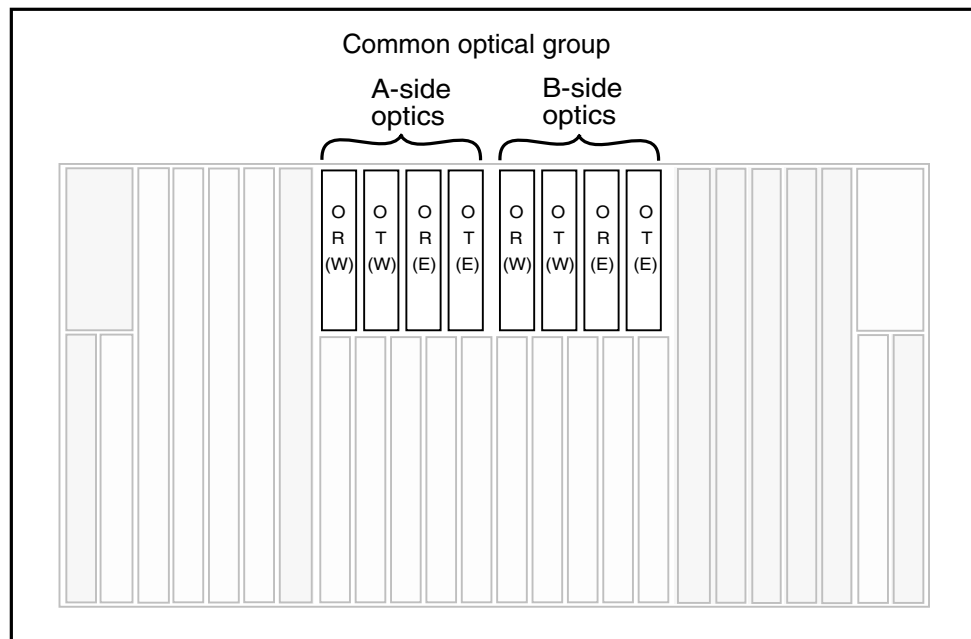

Figure 1. Common Optical Group In the CCA
1. In the common control assembly (CCA), locate the common optical group. See Figure 1. (W) and (E) denote “west” and “east” optics, respectively.